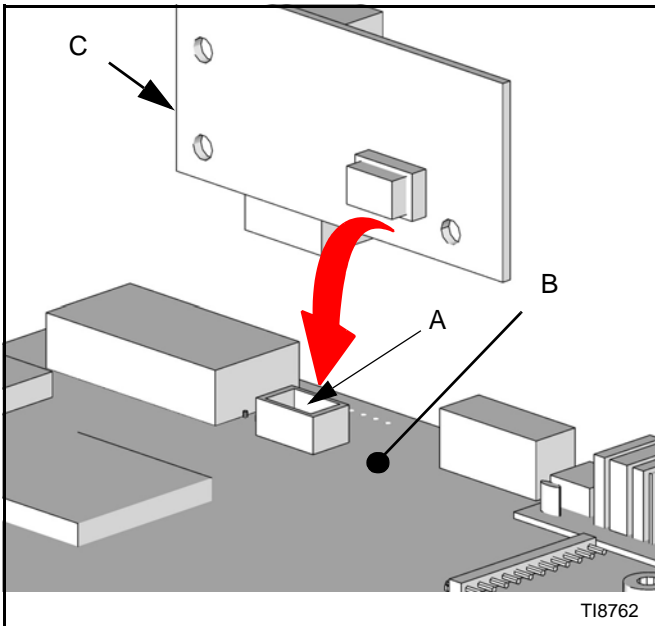

FIG. 40
4. Locate the 10 pin Expansion Connector J9 (A) on the lower right of the EasyKey Display Assembly 249480 (B). See FIG. 40.